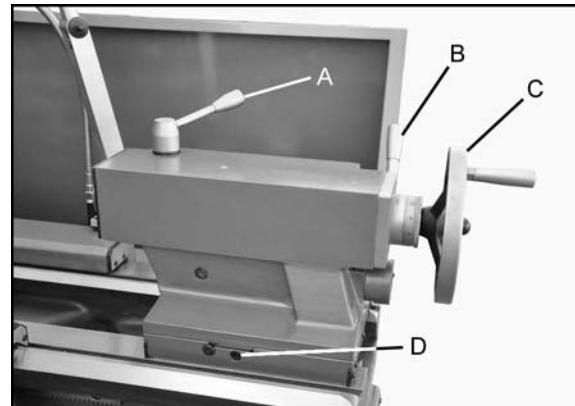

Figure 17 – Tailstock controls
19. **Tailstock Quill Clamping Lever (A, Figure 17):** Located on the tailstock. Rotate clockwise to lock the sleeve. Rotate counterclockwise to unlock.
20. **Tailstock Clamping Lever (B, Figure 17):** Lift up to lock. Push down to unlock. If the tailstock has a heavy load, tighten the hexagon head at right side of tailstock for auxiliary locking.
21. **Tailstock Quill Handwheel (C, Figure 17):** Rotate clockwise to advance quill and counterclockwise to retract it.
- 22. Tailstock Off-Set Adjustment (D, Figure 17):** Two hex socket cap screws located on the tailstock base are used to off-set the tailstock for cutting tapers. Loosening one screw while tightening the other will off-set the tailstock. Do not clamp the tailstock lock handle when adjusting.